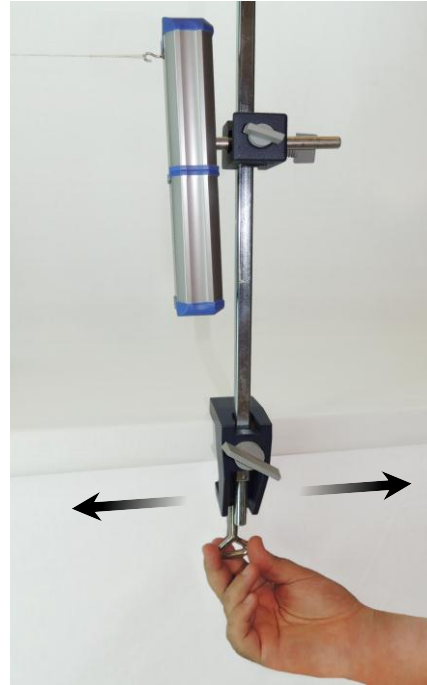
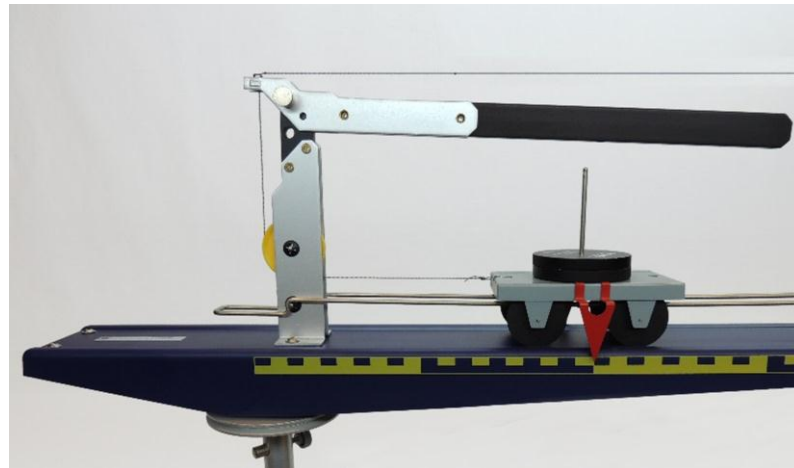

Figure 5.7: Loosening and fastening the sensor clamp to enable moving the support rod back and forth.
Figure 5.8: The $r = 20\text{ cm}$ adjustment.
The radius of the circular path can be adjusted by loosening the clamp (6) and moving the support rod holding the force sensor (1) back and forth until the required radius is adjusted then fastening the clamp again as shown in Figure 5.7. Make use of the red radius pointer (10) on the side of the cart (7) and the radius ruler (11) on the track to adjust the correct radius. $r = 20\text{ cm}$ adjustment is shown in Figure 5.8.